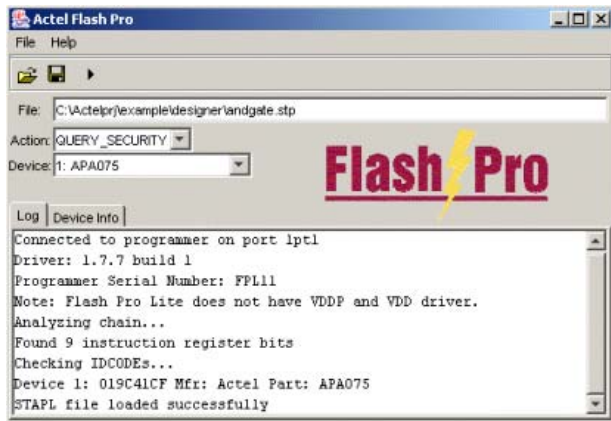

Figure 2-34. STAPL File Loaded Successfully
2. Browse to the root folder of the project, select the STAPL file, and click **Open**. The FlashPro software loads the file. The FlashPro **Log** window displays a message indicating that the software has successfully loaded, as shown in Figure 2-34.